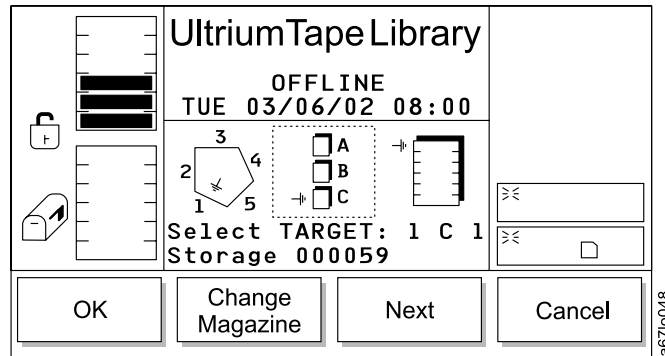

Figure 87. Change Magazine Dialog
- If **Next** is selected, the current source parameter changes from column to magazine and the Change Magazine Dialog displays (see Figure 87 on page 95).